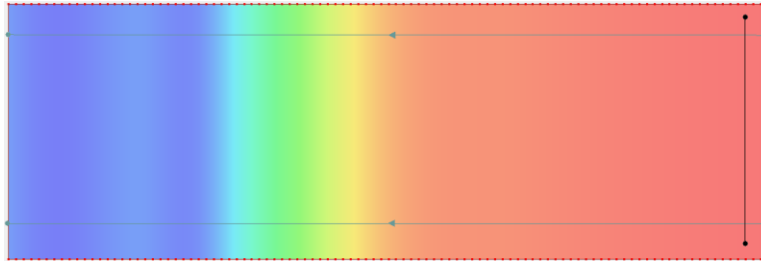

Figure 6 Location of wave maker arc, with transect arcs grayed out
6. Using the **Create Arc**  tool, click out arc crossing the two transect arcs at the deep end of the scatter set to define the wave maker location, as in Figure 6.